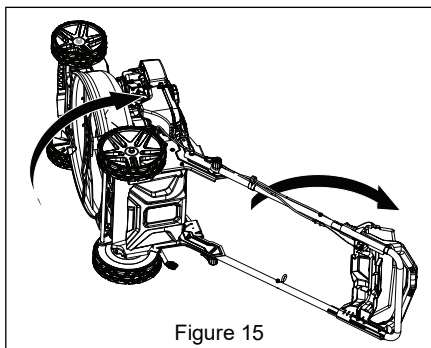

Figure 15
6. Rotate unit onto its right side. Ensure the unit is secure and will not tip. See Figure 15.